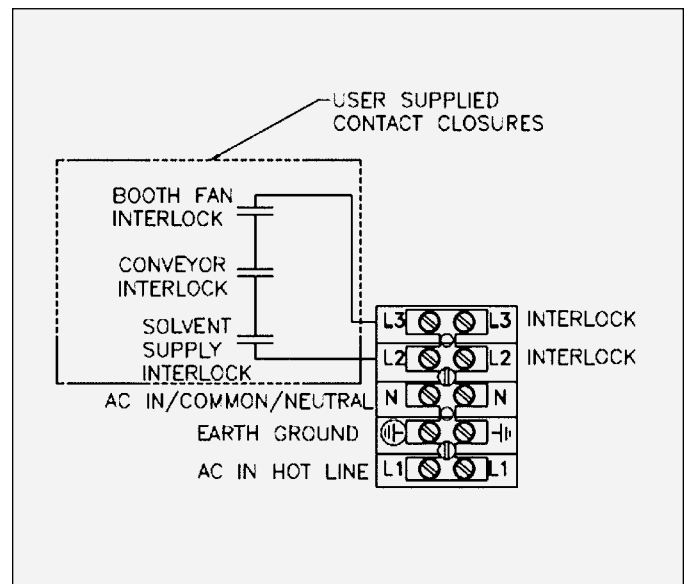

Figure 9: TB1 Interlock Wiring
4. Using a shielded cable for the interlock wiring (supplied by user), route through the interlock connector on the side of the 9060 Controller and terminate TB1-L2 and TB1-L3 as shown in Figure 9 and 11. The shielded cable must have a minimum rating of 300V and 105°C and its conductors should be 0.8mm² (18 AWG) minimum. Secure the cable to the interlock connector as described in “I/O Connections” in the “Installation” section of this manual so that the shield of the cable is connected to the chassis of the enclosure.